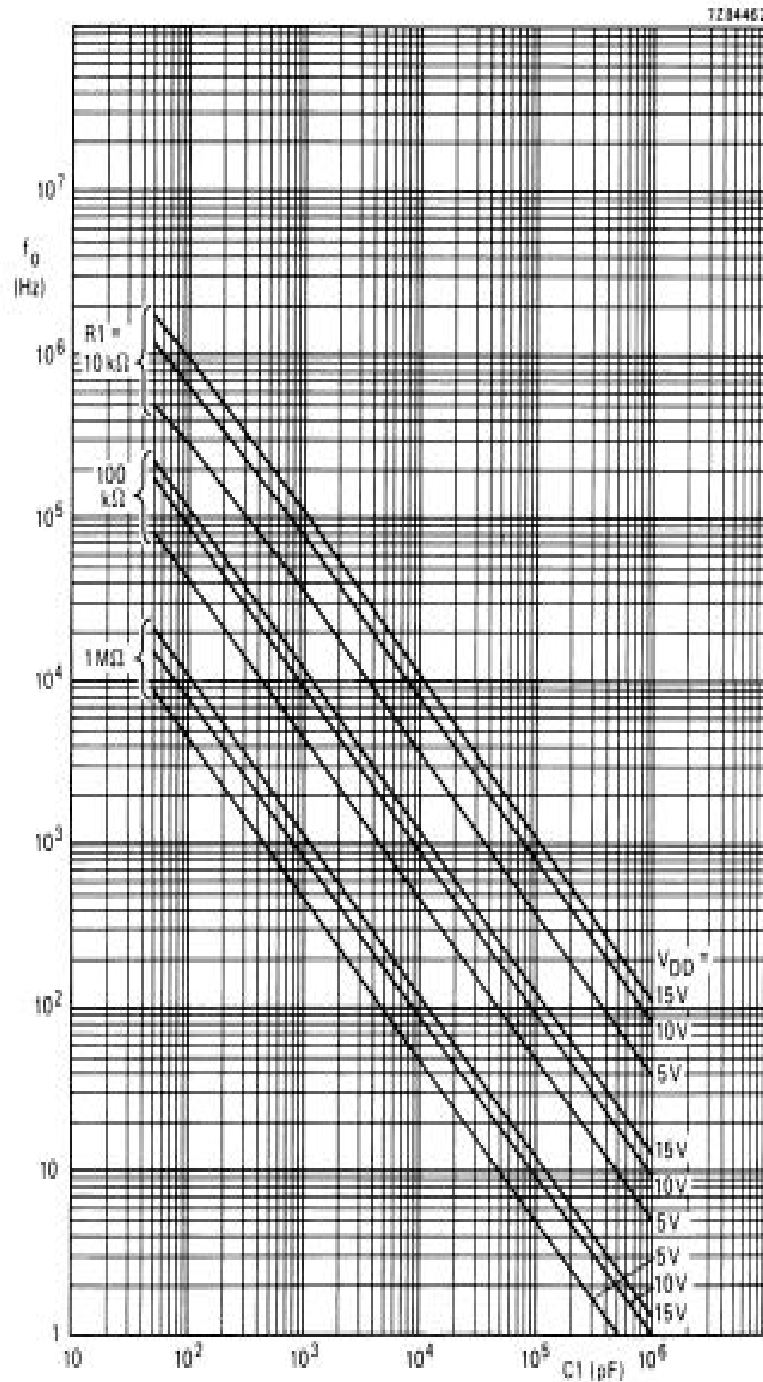

Fig.7 Typical centre frequency as a function of capacitor C_1 ; $T_{amb} = 25^\circ\text{C}$; V_{DDH} at $\frac{1}{2} V_{DD}$; INH at V_{DD} ; $R_2 = \infty$.
- Given f_0 : use f_0 with Fig.7 to determine R1 and C1.
- Given f_{max} : calculate f_0 from $f_0 = \frac{1}{2} f_{max}$; use f_0 with Fig.7 to determine R1 and C1.